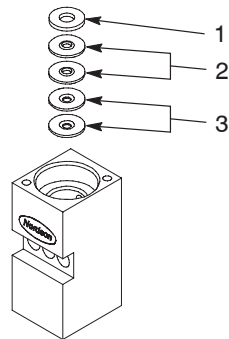

Figure 9-12 Removing the upper seal support disk and the hat seals
7. See Figure 9-12. Remove the upper seal support disk (1) and the upper (2) and lower (3) hat seals from the top of the module body.